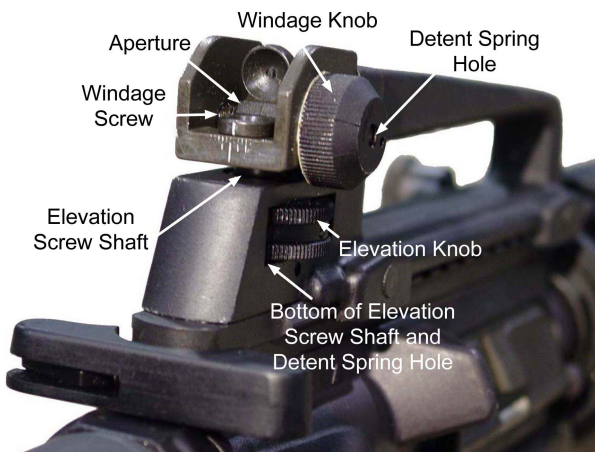

Figure 3-70. Lubricate Adjustable Rear Sight
- (1) Moving Parts. Apply one drop of CLP to the moving parts listed below. Rotate parts to ensure lubricant is spread evenly. Refer to Figure 3-70.